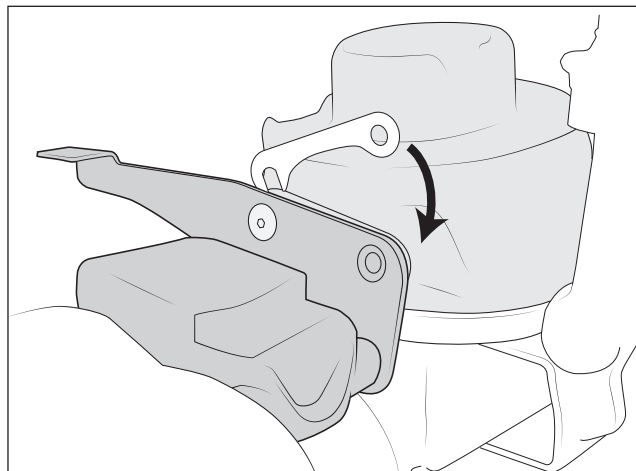

Figure 28
- G. There may be a gap between the bumps top and coil spring mount. Use the supplied shims to shim as shown (fig. 28).